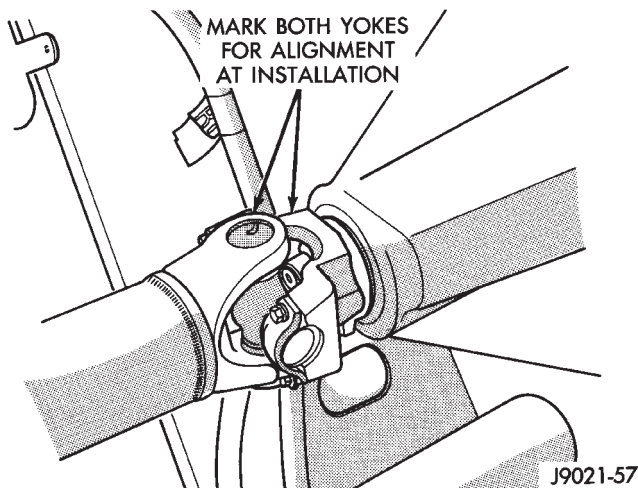

Fig. 7 Marking Propeller Shaft and Axle Yoke
7. Mark the front and rear propeller shafts for installation alignment (Fig. 7).